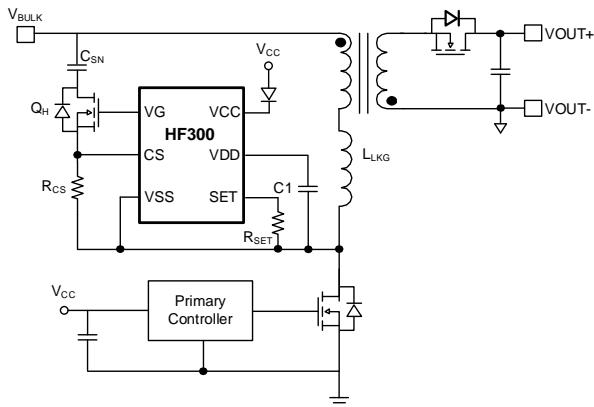
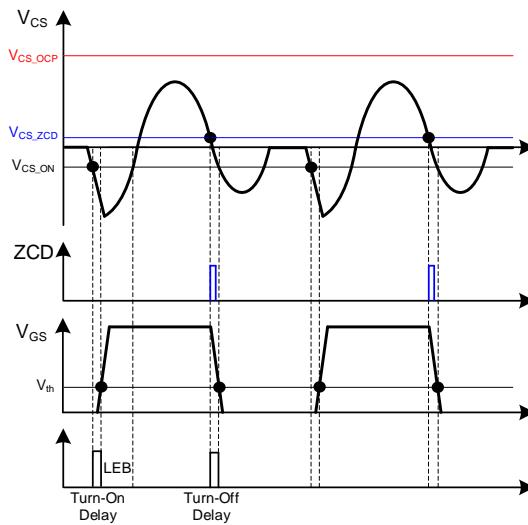
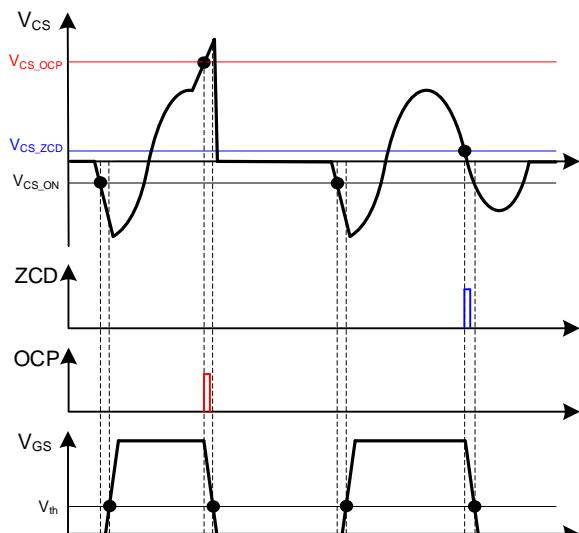

Figure 2: Typical Application Circuit
Figure 3: Key Operating Waveforms
Figure 4: OCP/Shoot-Through Prevention
The HF300 is an intelligent, high-frequency, flyback ideal clamping controller that recycles and reuses the leakage energy based on charge balance control. The HF300 supports discontinuous conduction mode (DCM), continuous conduction mode (CCM), quasi-resonant (QR) operation, and zero-voltage switching (ZVS) in flyback converters. Figure 2 shows the typical application circuit. Figure 3 and Figure 4 on page 10 show the HF300's key operating waveforms.
Once the HF300 is enabled, the CS pin senses the current from the leakage inductance ( $L_{LKG}$ ) after the primary main switch turns off. When the CS pin voltage ( $V_{CS}$ ) reaches the turn-on threshold ( $V_{CS\_ON}$ ), the gate driver turns on after a turn-on delay ( $t_{ON\_DELAY}$ ) (see Figure 3).
The control circuitry contains a blanking function. To avoid accidental, premature turn-off by the switching noise, an internal leading-edge blanking (LEB) unit is employed after the gate driver turns on (see Figure 3). During the blanking time, the turn-off comparator is disabled, and the gate driver cannot turn off.
During gate driver turn-on, the leakage energy is recycled into the clamping capacitor ( $C_{SN}$ ), and then sent to the secondary-side output through a transformer when the leakage current ( $I_{LKG}$ ) has a negative resonance (i.e. the opposite direction/polarity). When the leakage is fully recycled and delivered again to the output,  $I_{LKG}$  resonates back to 0A, and the gate driver turns off (see Figure 3).
When  $V_{CS}$  reaches the zero-current detection threshold ( $V_{CS\_ZCD}$ ), the gate driver turns off after a turn-off delay ( $t_{OFF\_DELAY}$ ) (see Figure 3 on page 9).
The HF300's cycle-by-cycle over-current protection (OCP) limits the  $C_{SN}$  maximum discharge current. Once  $V_{CS}$  reaches the OCP/shoot-through prevention threshold ( $V_{CS\_OCP}$ ), the gate driver turns off after the OCP/shoot-through prevention turn-off delay ( $t_{OCP\_DELAY}$ ) (see Figure 4).